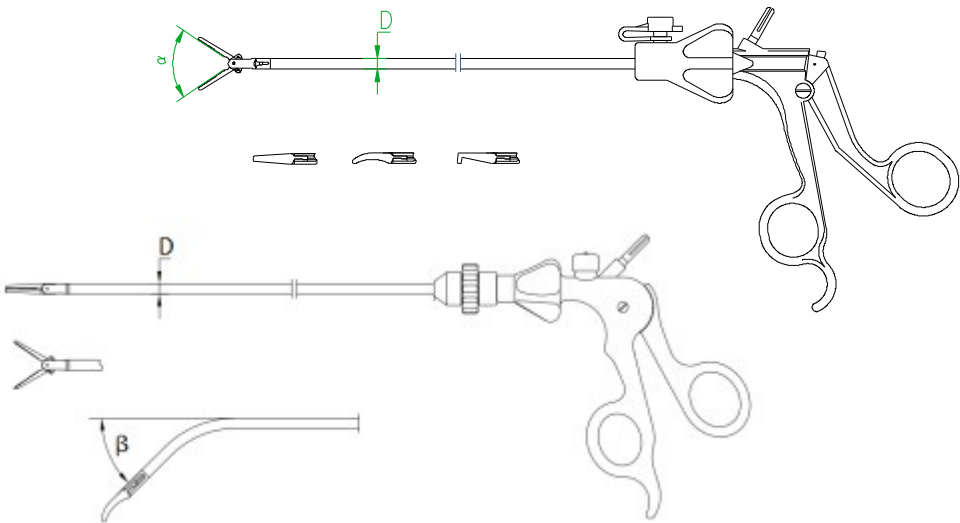

Fig.2 Structure diagram of Monopolar Dissector
B. The outline structure and basic dimensions of Monopolar Dissector are shown in Fig.2 and Table 2.